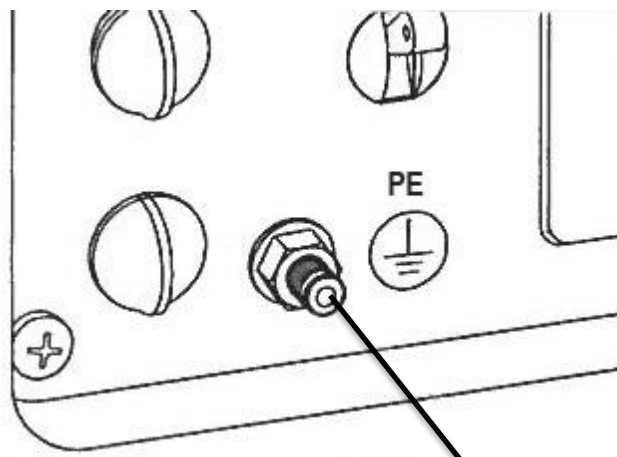

Figure-11 Grounding the Generator
- \* This allows the generator to be used as a portable without grounding the frame of the generator. **See Figure-11.**